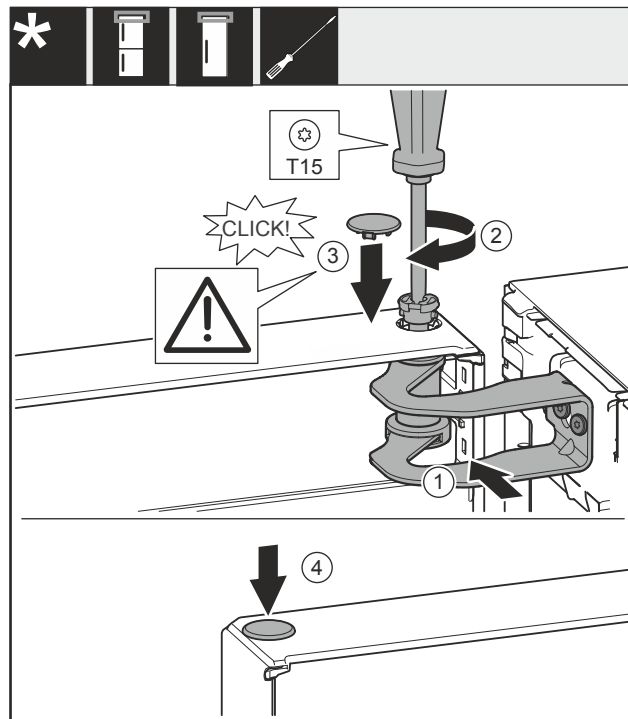

Fig. 23
- Align the door with the opening in the swap bearing block Fig. 23 (1).
- Insert the bolt Fig. 23 (2) and use screwdriver to tighten it.
- Insert the cover Fig. 23 (3).
- Check that the cover Fig. 23 (3) is resting on the door.
- Insert the cover Fig. 23 (4).